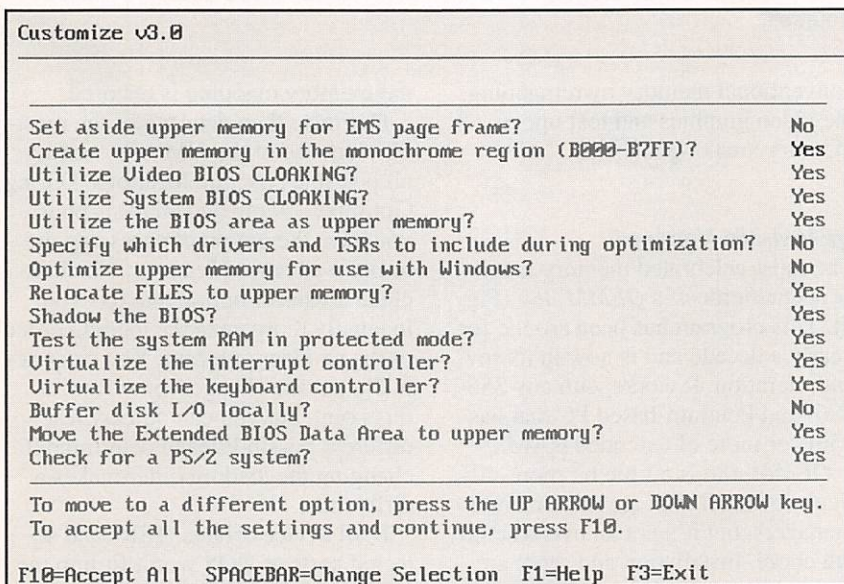

Fig. 4. Using *Netroom 3's* configuration program is a simple matter of choosing yes or no from the above menu.
*Netroom 3*, from Helix Software (Fig. 4), is a unique memory manager that permits programs to run in 32-bit protected mode, yet still remain DOS-compatible. Based on revolutionary "Cloaking" technology, *Netroom* can free up to 240K of upper memory without the performance hit experienced with older 386 memory managers. The program is compatible with all Intel CPUs, including 8088/8086, 286, 386, 486 and Pentium, with 1M of system RAM plus EMS or extend-